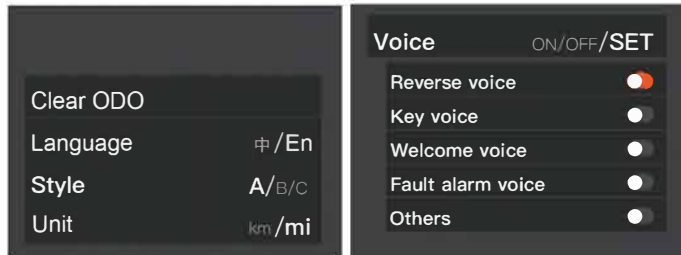

Figure 1 (Project interface 1) Figure 2 (Project interface 2)
8.3.1 Open the box, take out the wheelchair, and remove the protective cushion. First flip the footrest forward, and then take out the pearl cotton protective pad in the battery compartment. When unfolding the wheelchair, please first find the latch under the footrest (**Fig.1**), slightly push the latch upward to unlock it, then press the backrest with one hand and the seat with the other hand, and pull the wheelchair forward and backward. When you hear a click, it indicates that the latch has been stuck into the locking pin (**Fig.2**), and the wheelchair has been unfolded.
The controller is turned on and the instrument display is normal. Press and hold the  and  buttons for about 3 seconds. After the controller emits 2 beeps, release the combination button to enter the engineering interface, as shown in Figure 1 (engineering interface 1) and Figure 2 (engineering interface 2):